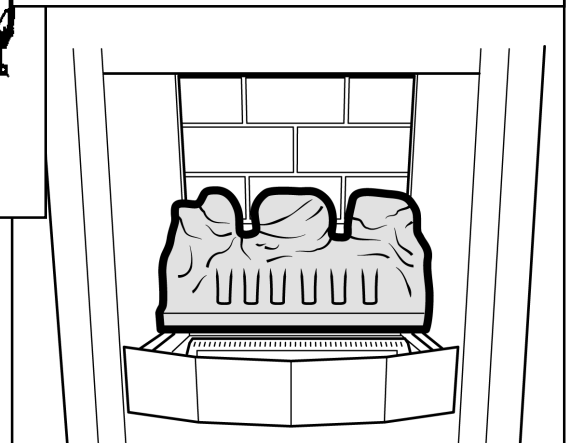

Figure 4 Rear Base Coal Position
3. Place the rear base coal in the firebox. It should rest on the ledges at the sides and back of the firebox and its rear face should touch the rear ceramic wall. See figure 4.